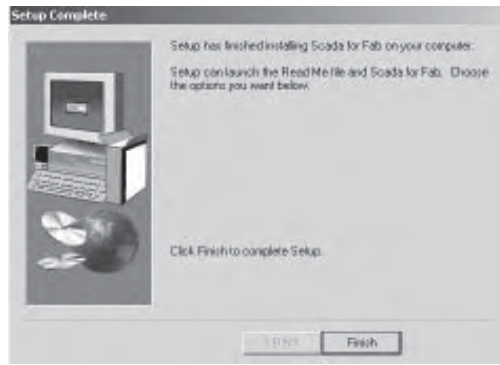

Fig. 2-6 Installation Interface 6
Step 5. In Fig. 2-6, if you want to run the system immediately, select **Yes**. Launch the program file. We don't want to run the system immediately and click **Finish**.